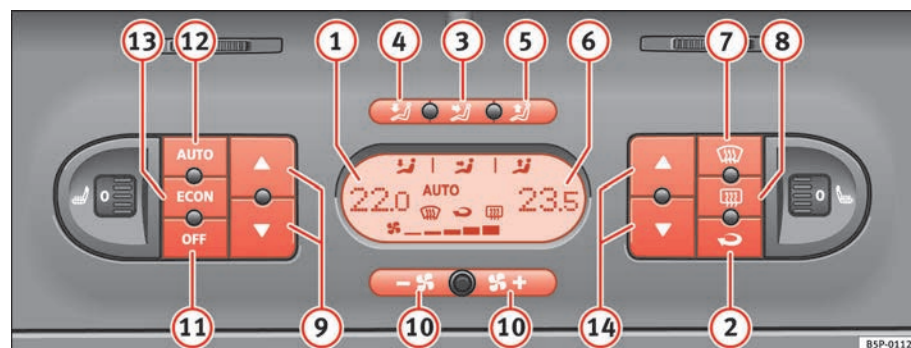

Fig. 132 On the dash panel: 2C Climatronic controls
- Press the temperature control buttons ⇒ **page 156, fig. 132 9** or **14** in order to adjust the temperature on the left hand side or the right hand side respectively.
- Press the button  ⇒ **page 156, fig. 132**. “AUTO” is shown on the display. ▶